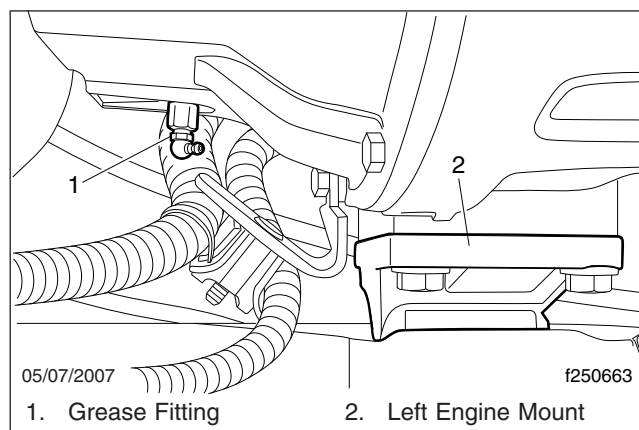

Fig. 2, Typical Release Bearing Grease Fitting
3. Clean the grease fitting. On some vehicles a lube tube will be used, and the fitting may be at the 9-o'clock position on the left side of the bellhousing (see Fig. 2).